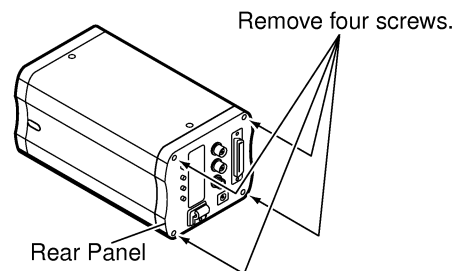

Fig. 2-1
- Referring to Fig. 2-1, remove four screws that secure the Rear Panel and remove the Rear Panel.